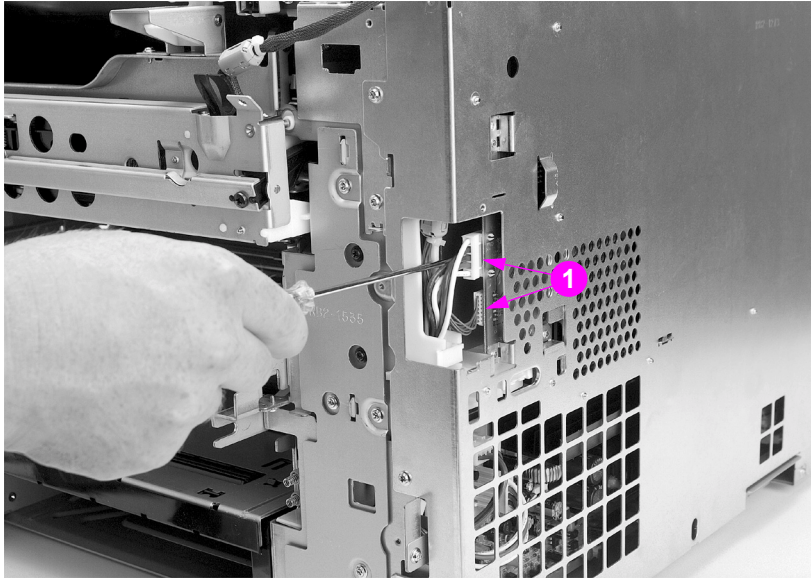

Figure 6-28 Formatter pan assembly removal and replacement (2 of 4)
- 11 Disconnect the two connectors shown in callout 1, Figure 6-28.